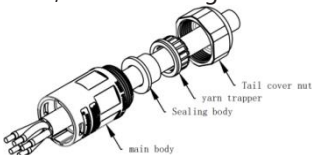

Figure 6-11-2 Thread the cable
- 2) Thread the cable through the tail cover, clamp, sealing body, and main body in sequence; Pay attention to the installation direction, as shown in Figure 6-11-2.